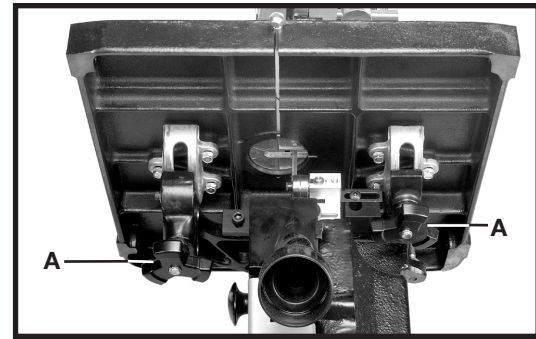
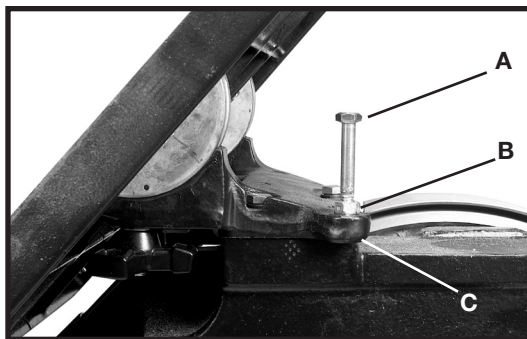
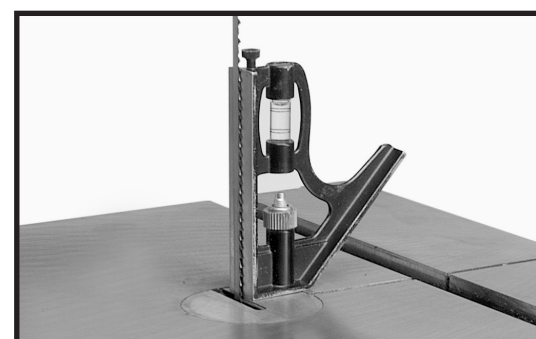

Fig. 20
Fig. 21
Fig. 22
1. The table on the machine can be tilted 45 degrees to the right and 10 degrees to the left. To tilt the table to the right, loosen the two locking knobs (A) Fig. 20, tilt the table to the desired angle, then re-tighten two locking knobs (A).
2. To tilt the table to the left, loosen the two locking knobs (A) Fig. 20, and tilt the table to the right until the table stop (A) Fig. 21 is accessible. Remove the table stop (A) Fig. 21, and tilt the table to the left. Tighten the two locking knobs (A) Fig. 20.
The machine is equipped with an adjustable table stop (A) Fig. 21 that allows the table to be set at 90 degrees to the blade.
Tilt the table to the right until the table stop (A) Fig. 21 contacts the table. Place a square on the table against the blade (Fig. 22). Check to see if the blade is 90 degrees to the table surface. If not, do the following:
2. Loosen the locknut (B) Fig. 21 to free the adjustment nut (A) Fig. 21. Turn the adjustment nut (A) right or left to raise or lower the table stop.
3. Lower the table. Check to see that the table is 90 degrees to the blade (Fig. 22). If it is, raise the table, hold the stop (A) Fig. 21 and tighten nut (B).